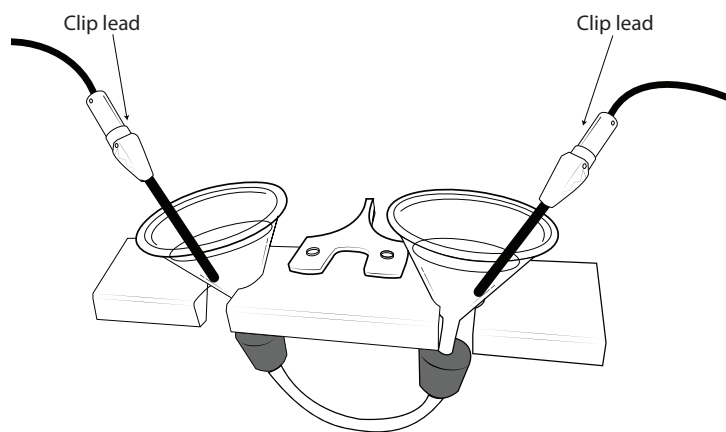

Figure 1. Funnel Apparatus with Electrodes
1. Check that your DC power supply is properly set up. Refer to Figure 1 on the next page for terminology and set up. If the clip leads are corroded or frayed, take them to the Dispensary to exchange for a new set.
Question A: How do you interpret the color changes in each funnel? Draw the diagram in Figure 1 and indicate what color changes occur and write balanced chemical reactions for the processes that cause the changes.
- Referring to Figure 1 in the Lab manual, note any observations in your lab notebook.